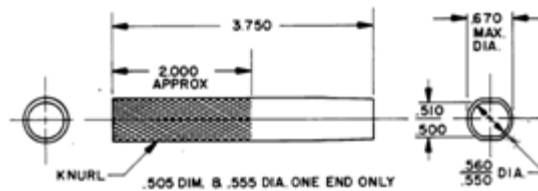

Figure 5-56. Spring Seat Tool
- f. Hold pilot-valve plunger down against snap ring and use Woodward tool 360692 or equivalent (Figure 5-56) to thread spring Seat onto plunger stem. Turn spring seat down until it touches overriding piston; then back off 1/4 turn. (Plunger will begin to rise if spring is turned down further on thread after touching piston.)